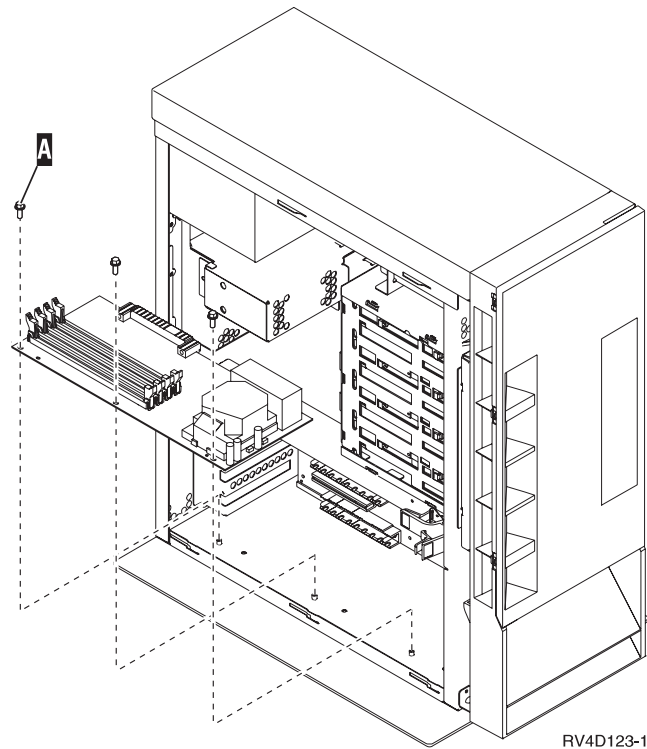

Figure 5. Installing the Server Card
- a. Align the card with the card slot, (Figure 5 on page 13).